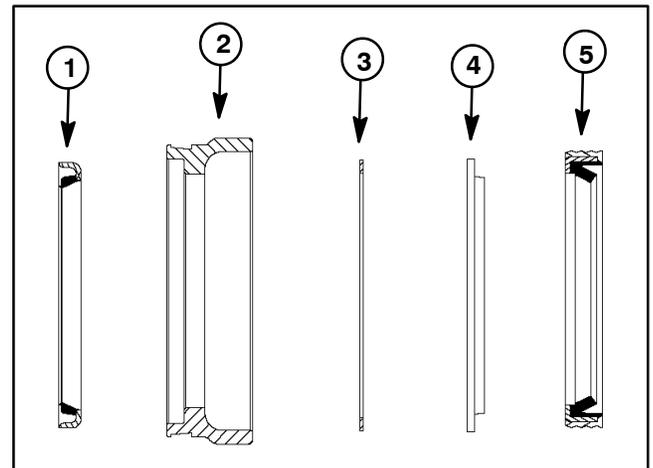
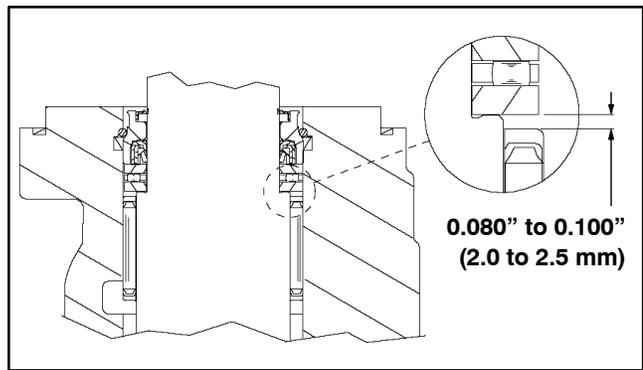

Figure 37
Figure 38
- A. Install metal backup shim (item 22), backup seal (item 21) and shaft seal (item 20) into seal carrier (item 23) noting orientation shown in Figure 37.
- C. Install dust seal (item 27) into seal carrier noting orientation shown in Figure 37.
5. Install high pressure seal (item 24) into the housing groove.
6. Install the backup shim (item 25) into the housing:
7. Install the wire ring (item 26) into the housing groove making sure that the ring ends are butted.
10. Remove shaft from housing and make sure that there is from 0.080" to 0.100" (2.0 to 2.5 mm) clearance between the rear thrust washer in the housing and the front bearing (Fig. 38). If not enough clearance exists, bearing must be repositioned in the housing before continuing with assembly process.